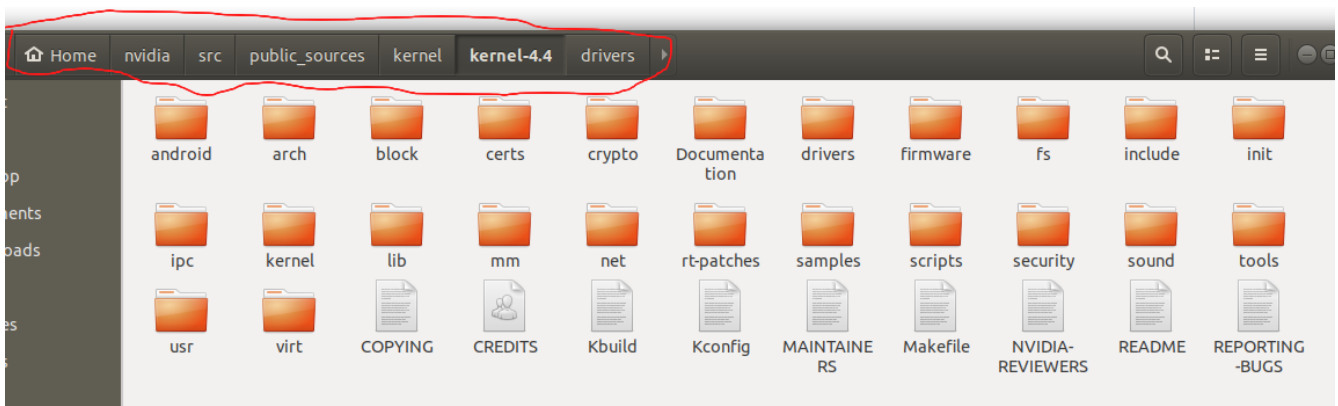

Figure 4. Please make sure to show the directory path structure in your screen capture like the one shown here.
- (4.1) Finish the installation, take a screen capture of your installed software, similar to Figure 4.